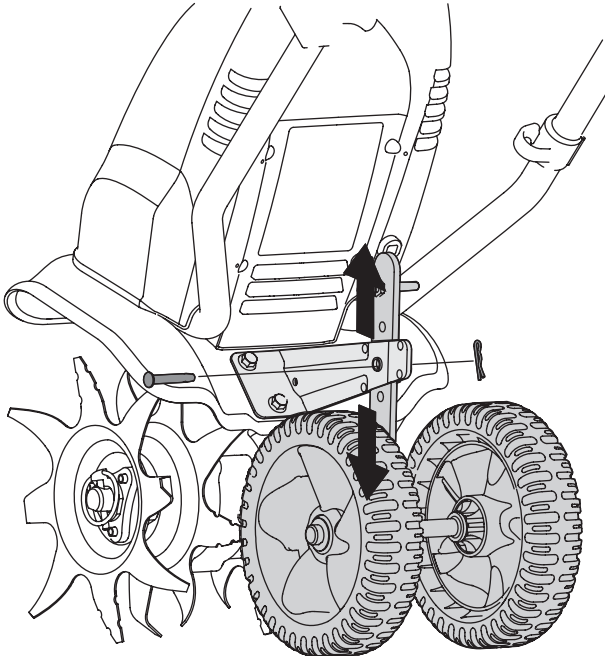

Fig. 8
1. Remove cotter pin from the clevis pin and slide pin out of tailpiece bracket (Fig. 8).